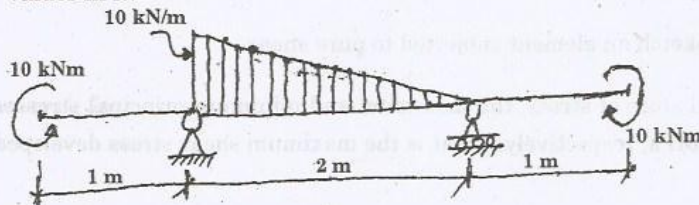

Figure 3
12. a) Analyze the beam shown in Fig. 3 and draw the BMD indicating the salient values in it. (3+6+4)
- b) Sketch the shear stress distribution in the beam shown in Fig. 3, at a section taken at the mid of two supports. Take the beam dimensions as 150 mm wide and 300 mm deep. (3+6+4)